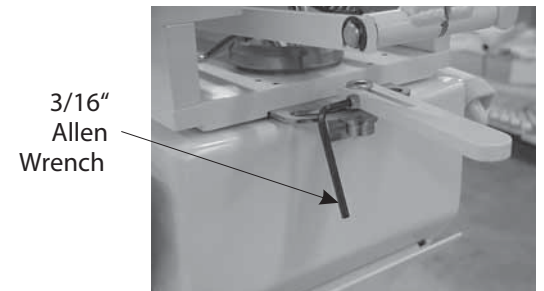
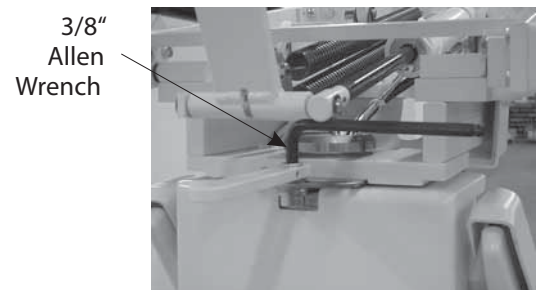

Figure 2.
Figure 3.
- ④ Loosen the Brake Lever Bolt with a 3/16" Allen Wrench until the Brake Lever releases its grip on the large Brake Bolt, See Figure 2.
- ⑤ Use a 3/8" Allen Wrench to tighten the Brake Bolt until the desired amount of braking resistance is achieved, See Figure 3.
- ⑥ With the braking resistance achieved, position the Brake Lever so that it is in-line with the front and back of the chair Base Plate, and has full gripping contact with the Brake Bolt head. Now tighten the smaller Brake Lever Bolt firmly with the 3/16" Allen Wrench. Be sure that the Brake Lever has a full surface grip on the head of the Brake Bolt, and does not slip when the Brake is re-applied to the chair, See Figure 2 & Figure 3.
- ⑦ Reinstall the Top Mount Shroud Assembly & Seat Upholstery